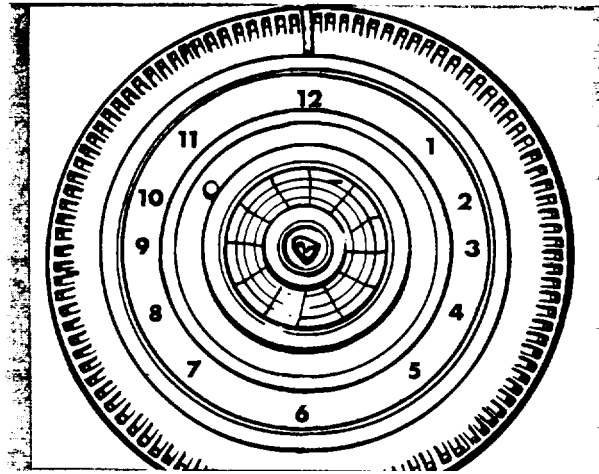
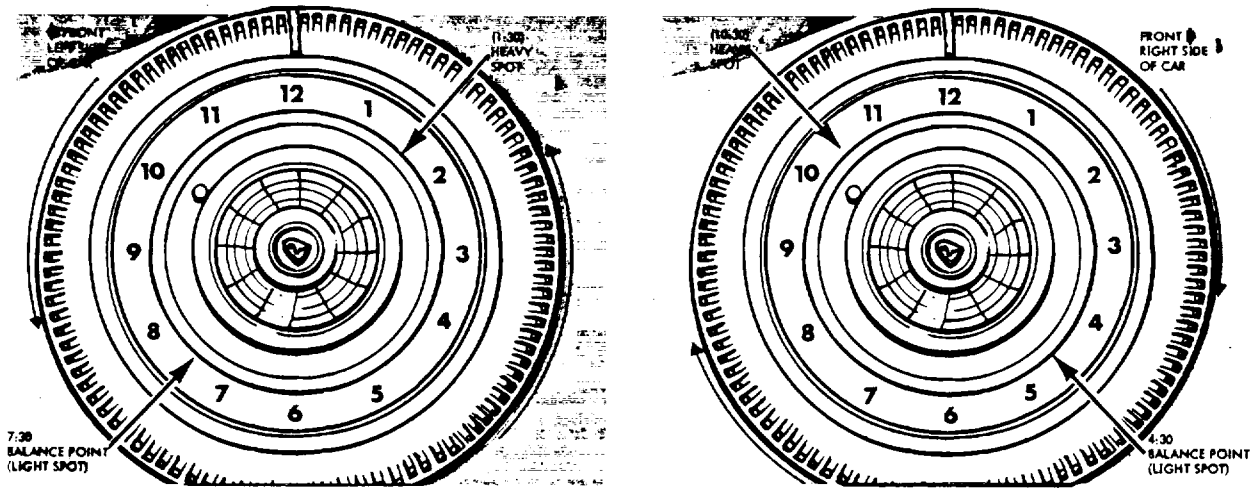

Fig. 3.
Fig. 4.
8. Meter switch. Set switch in No. 1 position at start of all balancing of small and medium size cars. Set in No. 2 position for large cars and trucks, or for more sensitive reading. (See Sec V, para 2.) Spin wheel up to speed (See Sec V, para 3) with switch in static position. Watch meter as it reaches its maximum reading. Rotate wheel to maximum speed with spinner. Immediately before taking readings, remove spinner from contact with tire. Instantly after removal of spinner from tire, note amount of ounces indicated on meter scale. Quickly glance at the reference mark, note position of the mark and read mark as you would the hour hand of a clock. (See Fig. 3) Quickly flip the switch from static to dynamic position and observe reference mark on wheel under strobe light operation, while letting the wheel coast down. Take dynamic reading where first seen (See Sec V, para 4). If the strobe light does not flash, no dynamic balancing is needed and weights can be applied to the inside or outside of rim if the weight to be applied is 2 ounces or less. If the weight is over 2 ounces it should be divided equally to both sides of the rim at balance point (see Fig. 4 for balance point). If the strobe light flashes, dynamic balance is needed. Note position of reference mark, and take dynamic reading at highest speed seen.
- a. Apply weight at balance point as shown in Fig. 4, Section II.